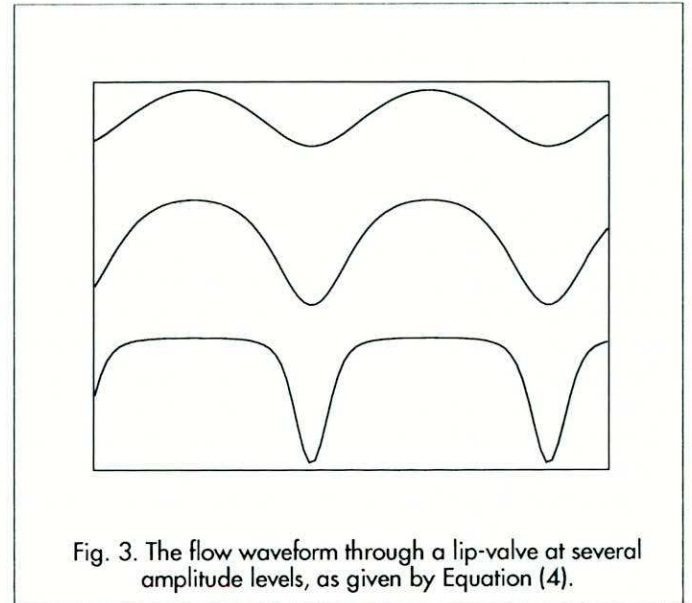

Fig. 3. The flow waveform through a lip-valve at several amplitude levels, as given by Equation (4).
This expression cannot be taken too literally in the limit as $a \rightarrow a_0$, but the shape of the flow waveform is essentially as shown in Figure 3.
Because of the acoustic coupling between the vocal folds in the throat and the player's vibrating lips, the interaction is quite complex. Suppose that the player's vocal folds vibrate at a frequency f_v . Then this produces pulses of flow in the same way as described for the lip valve and illustrated in Figure 3. The flow entering the mouth, and therefore the mouth pressure p_0 of (4), thus contains all harmonics nf_v of the vocal-fold frequency. When this flow is convolved with the nonlinear flow through the lips, which are vibrating with frequency f_L , as in (4), the result is the production of all frequencies $nf_v \pm mf_L$, those with greatest amplitude having small integer values (1 or 2) for m and n .